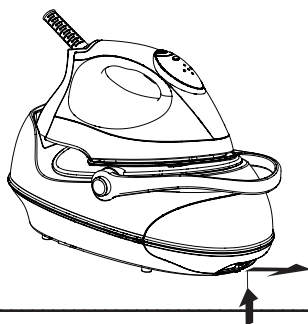

Fig.2
1. Press the water tank lock upwards and slide the detachable water tank outwards from the base.(Once power on, water tank decoration indicator light will turn off while water tank is sliding out.) Fig.2